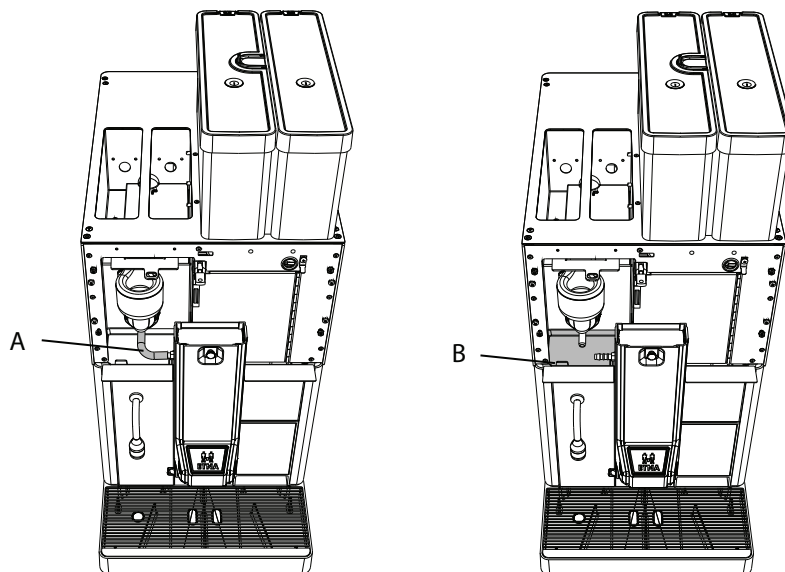

Figure 4-10
16. Remove the moulded hose. (A) (see figure 4-10).
17. Pull the tab of the drip tray up. (B) (see figure 4-10).